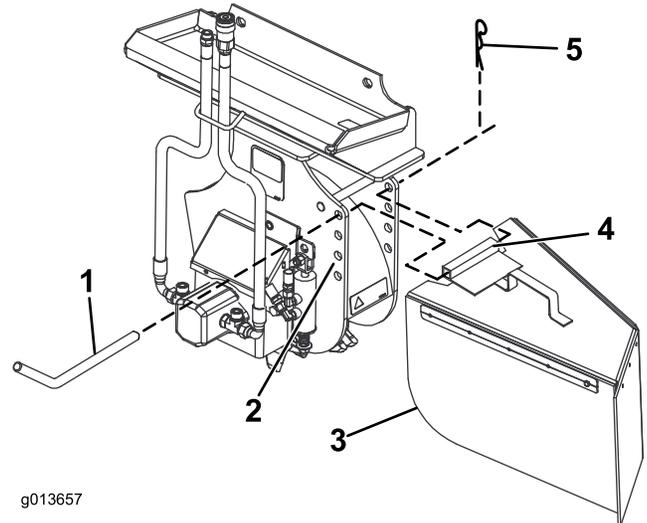

Figure 7
The stump grinder has 4 sets of mounting holes for positioning the chip guard (Figure 7). Move the guard up (upper holes) when you are grinding close to the ground and down (lower holes) when you are chipping tall stumps. Install the chip guard as follows:
- Position the mounting tube on the guard between two holes on the grinder (Figure 7).
- Slide the guard pin through the holes in the grinder and the mounting tube (Figure 7).
- Secure the pin with a hairpin cotter (Figure 7).